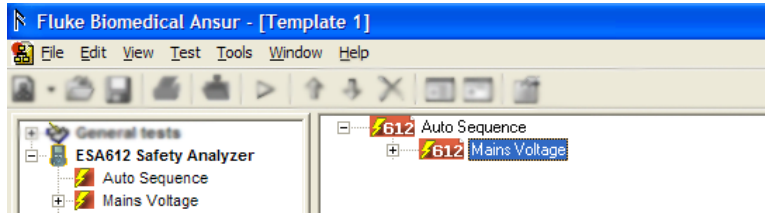

Figure 3-21. Adding Electrical Safety Tests to the Auto Sequence
- To add tests to the Auto Sequence, click and hold on the desired test in the Test Explorer window and drag it to directly over the Auto Sequence entry in the Template Window and release it. The Mains Voltage test is added to the Auto Sequence shown in Figure 3-21.